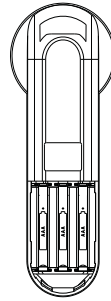

Figure 2
3. Place 3 new batteries type R03 or LR03 (AAA) in the transmitter. Press a button for 3 sec. If above procedure not is performed the handset will function anyway after app. 5 minutes. Direction of how to place the batteries in the transmitter is shown in *Figure 2*